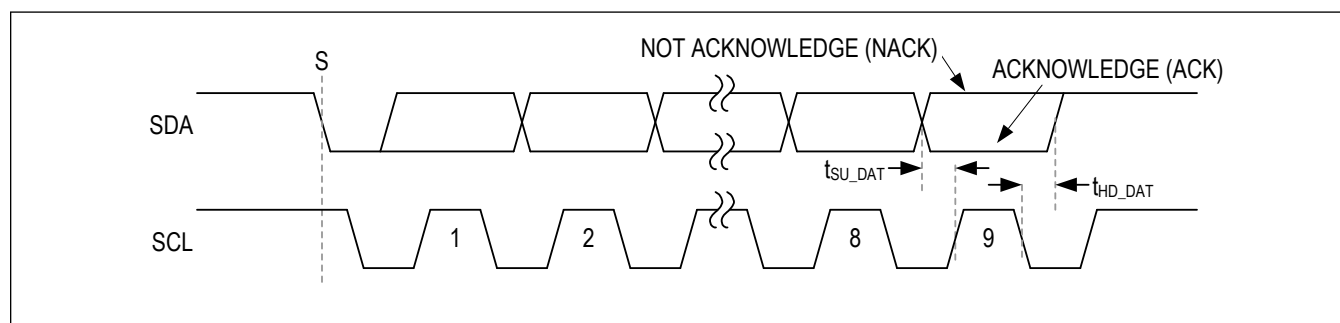

Figure 21. Acknowledge Bit
Both the I2C bus master and slave devices generate acknowledge bits when receiving data. The acknowledge bit is the last bit of each 9-bit data packet. To generate an acknowledge (A), the receiving device must pull SDA low before the rising edge of the acknowledge-related clock pulse (ninth pulse) and keep it low during the high period of the clock pulse. See Figure 21. To generate a not-acknowledge (nA), the receiving device allows SDA to be pulled high before the rising edge of the acknowledge-related clock pulse and leaves it high during the high period of the clock pulse.